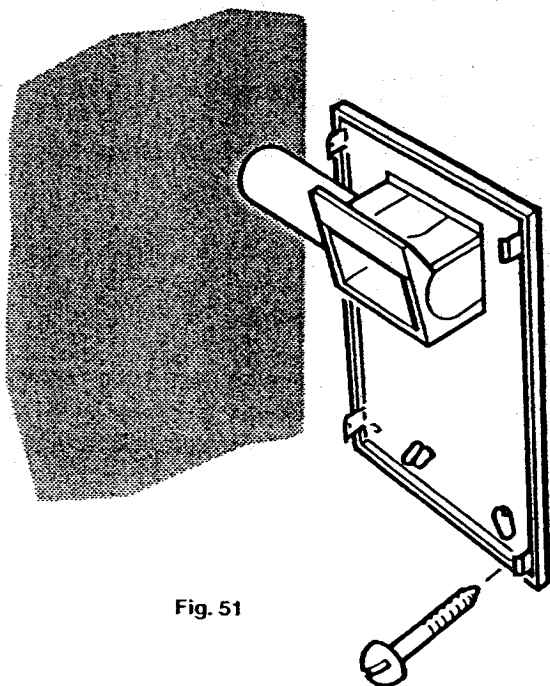

Fig. 51
8. Secure the assembly to the wall at the previously drilled anchorage points with suitable screws. Before finally tightening the screws, check that the assembly is level (Fig. 51).